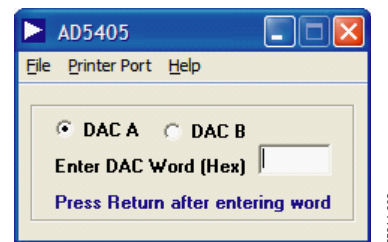

Figure 2. AD5405 Dialog Box
2. Run the program file from the **Analog Devices** menu. The **AD5405** dialog box opens, as shown in Figure 2.